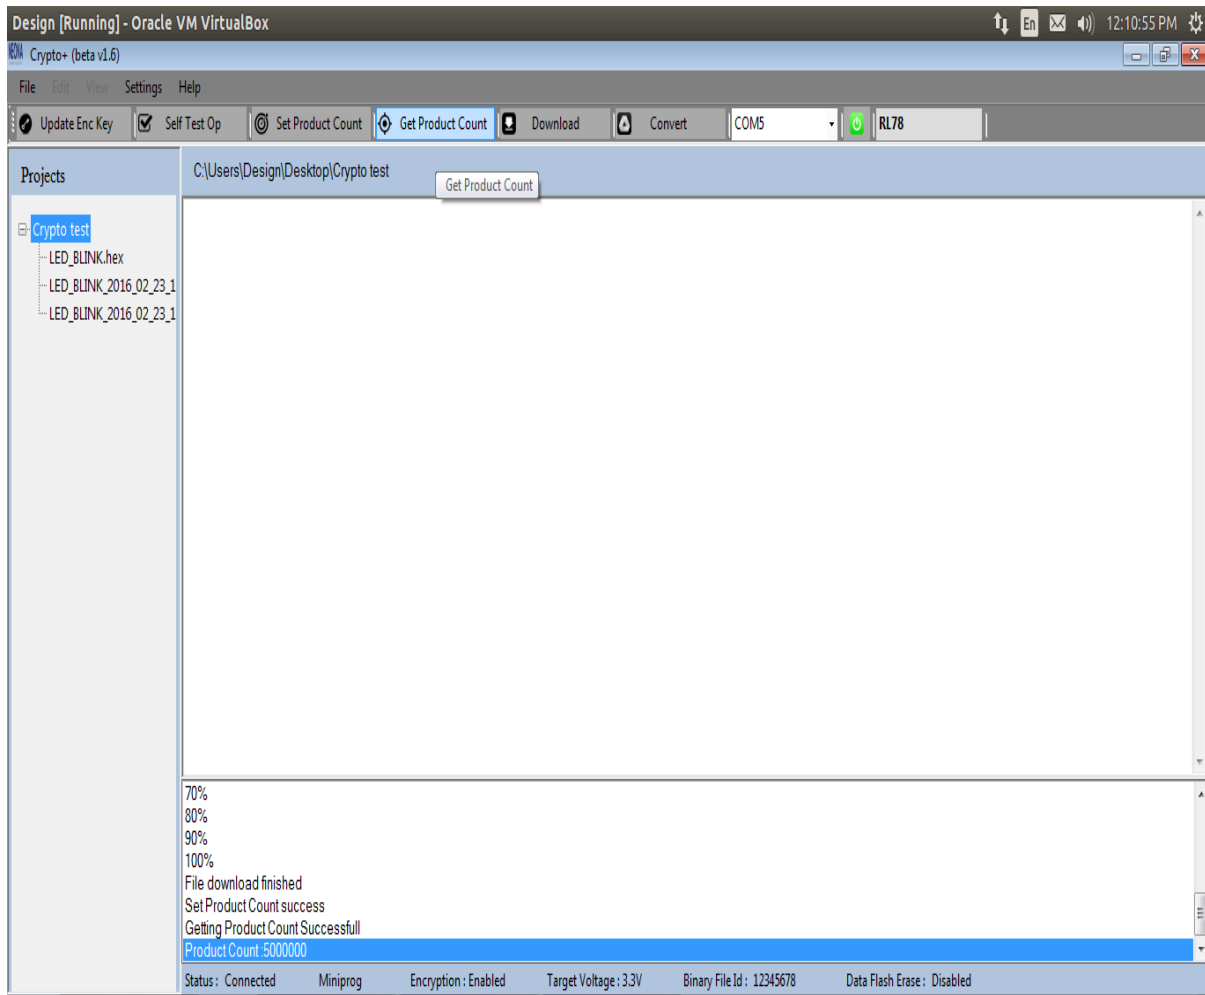

**Figure 2.36**
**STEP 1:** Click **Set Product Count**. A window asking the encryption key and product count will appear as shown in figure 2.36.